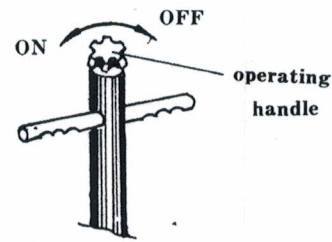

Fig. 2
1. Tighten the operating handle, clockwise (see Fig.2), but don't over-tight it.
Turn the discharge cock slowly counter-clockwise (see Fig.2), the lower-down speed is controlled by the discharge cock.